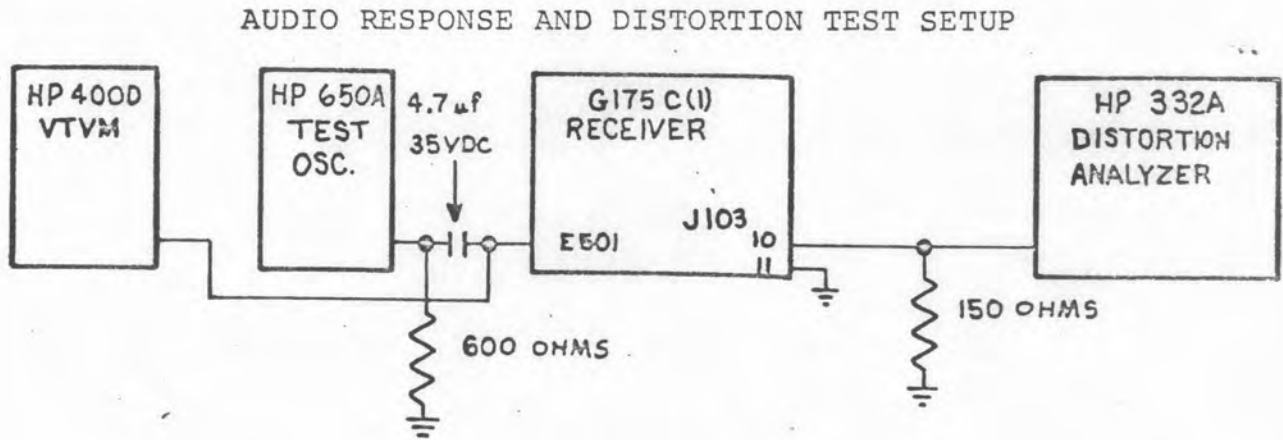

Figure 5-26
- a. Connect the equipment as shown in figure 5-26.